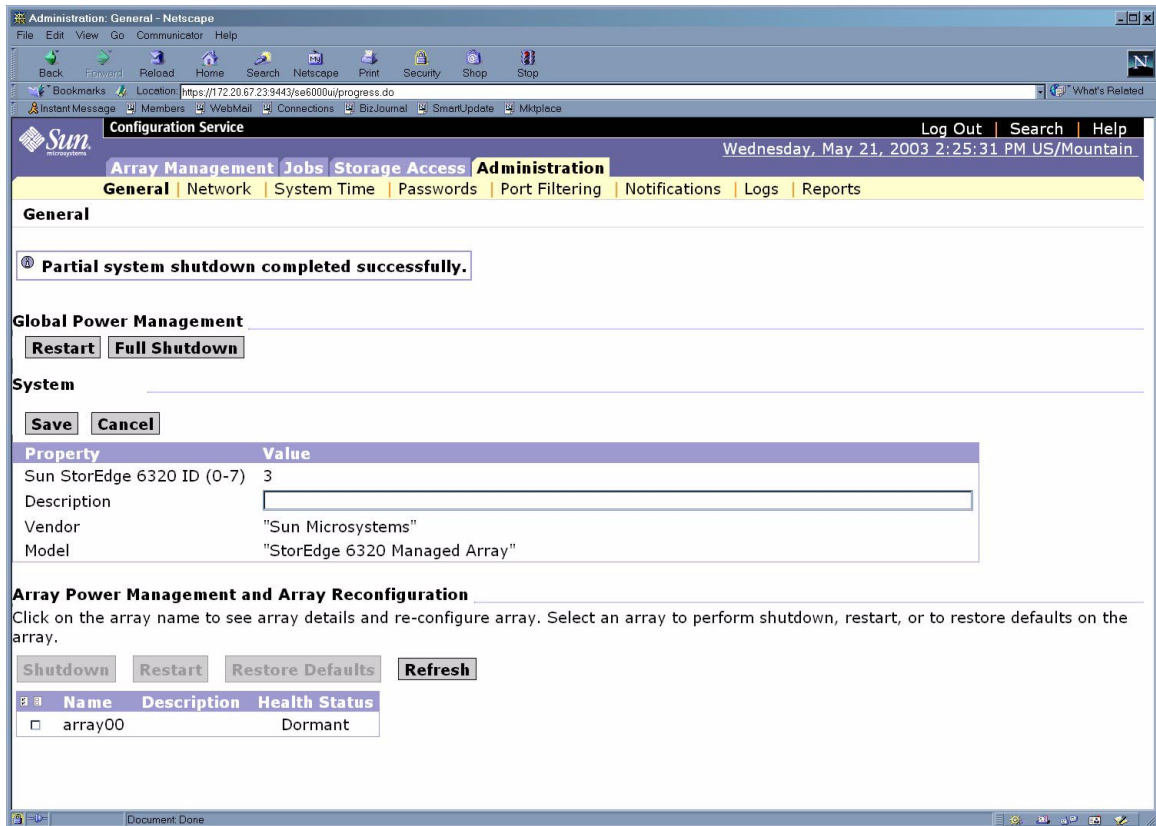

FIGURE B-13 Administration General—Power Restart Page
5. The Administration General Page is displayed as shown in FIGURE B-13.